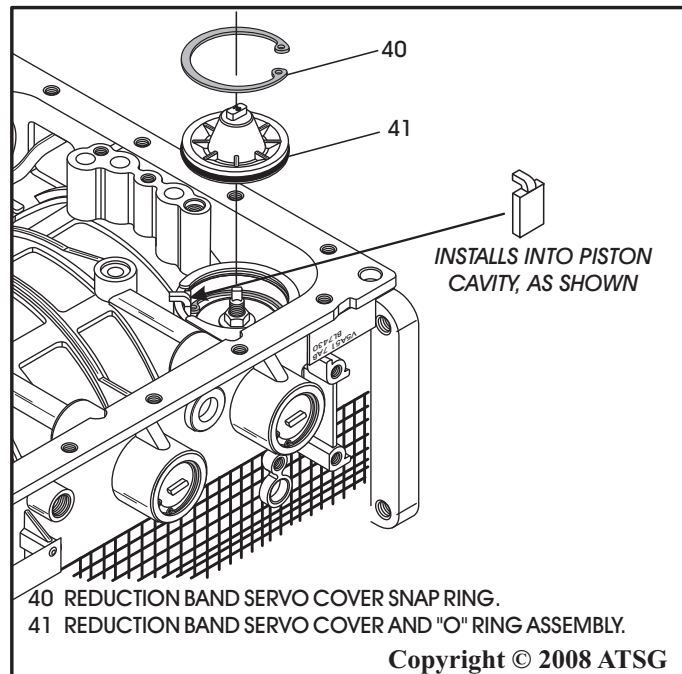

Figure 215
72. Install the pre-assembled reduction servo cover and snap ring, flat side facing down, as shown in Figure 215.